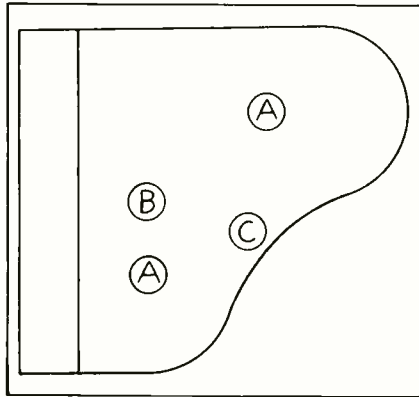

Figure 8: Some close-miking positions for piano.
mers, and the other microphone is placed over the bass strings, about 8 inches high, about 2 to 4 feet from the hammers (*Figure 8, position A*). These microphone signals are panned partly toward the left and right for a stereo effect. Alternatively, two surface-mounted microphones can be taped to the underside of the piano lid over the bass and treble strings, or taped to the inside of the front edge. In another technique, a single microphone or a pair of crossed cardioids is positioned about 1 foot over the middle
of the piano, about 8 inches from the hammers (*Figure 8, position (B)*). The closer to the hammers the microphones are placed, the more percussive is the attack in the recording. So, if the sound is too “bangy” and lacks tone, move the microphones toward the tail of the piano away from the hammers.
(*Figure 8, position (C)*). Each hole emphasizes the strings closest to it.